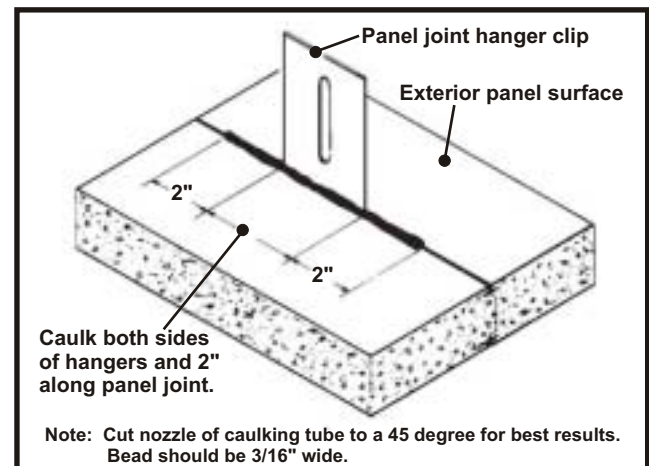

Fig. 8
- C. All wall penetrations should be sealed. This includes any protruding clips or hangers installed in panel joints. See Fig. 8.